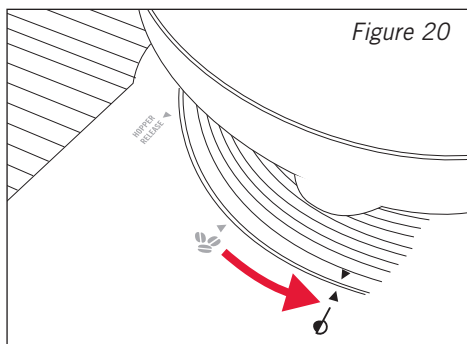

Figure 20
- Turn the hopper so that the arrow on the base of the hopper is aligned with the  pre-ground coffee arrow and the brewing mechanism sets to the required function. See Figure 20.